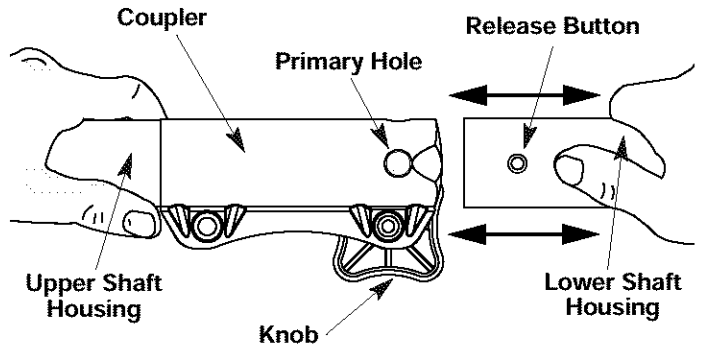

Fig. 2
3. While firmly holding the upper shaft housing, pull the snow thrower attachment out of the coupler (Fig. 2).
3. While firmly holding the add-on, push it straight into the coupler (Fig. 2).
**CAUTION:** Lock the release button in the primary hole (Fig. 2) and securely tighten the knob before operating this unit.